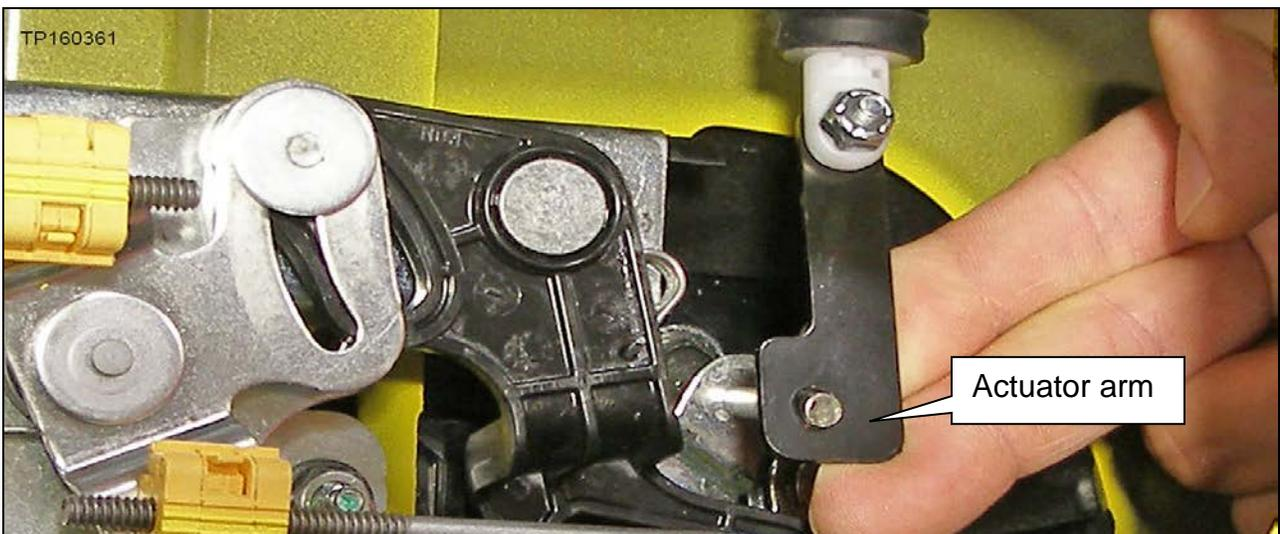

Figure 8
b. Lift the actuator arm off the pin as shown in Figure 8.